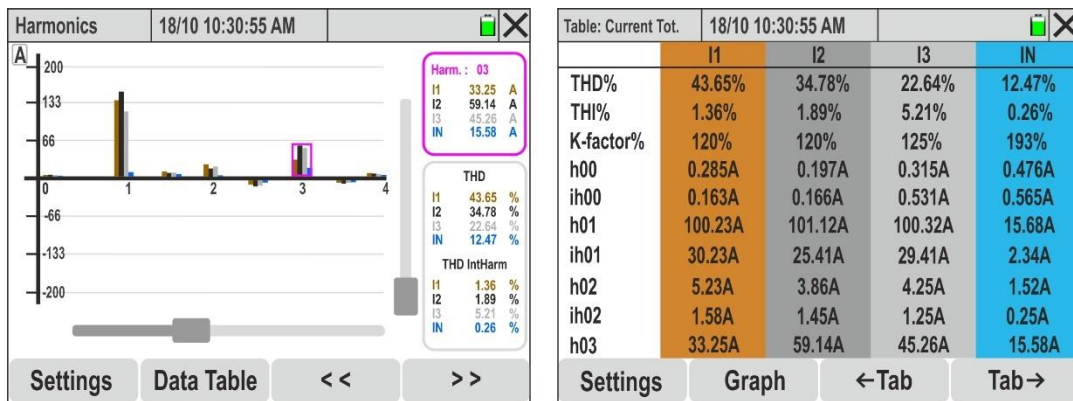

Fig. 56: Current harmonic analysis in numerical format with graph
- When the 4 currents are selected**, the bar graphs of the individual currents I1, I2, I3 and IN are shown in Fig. 56 - left part